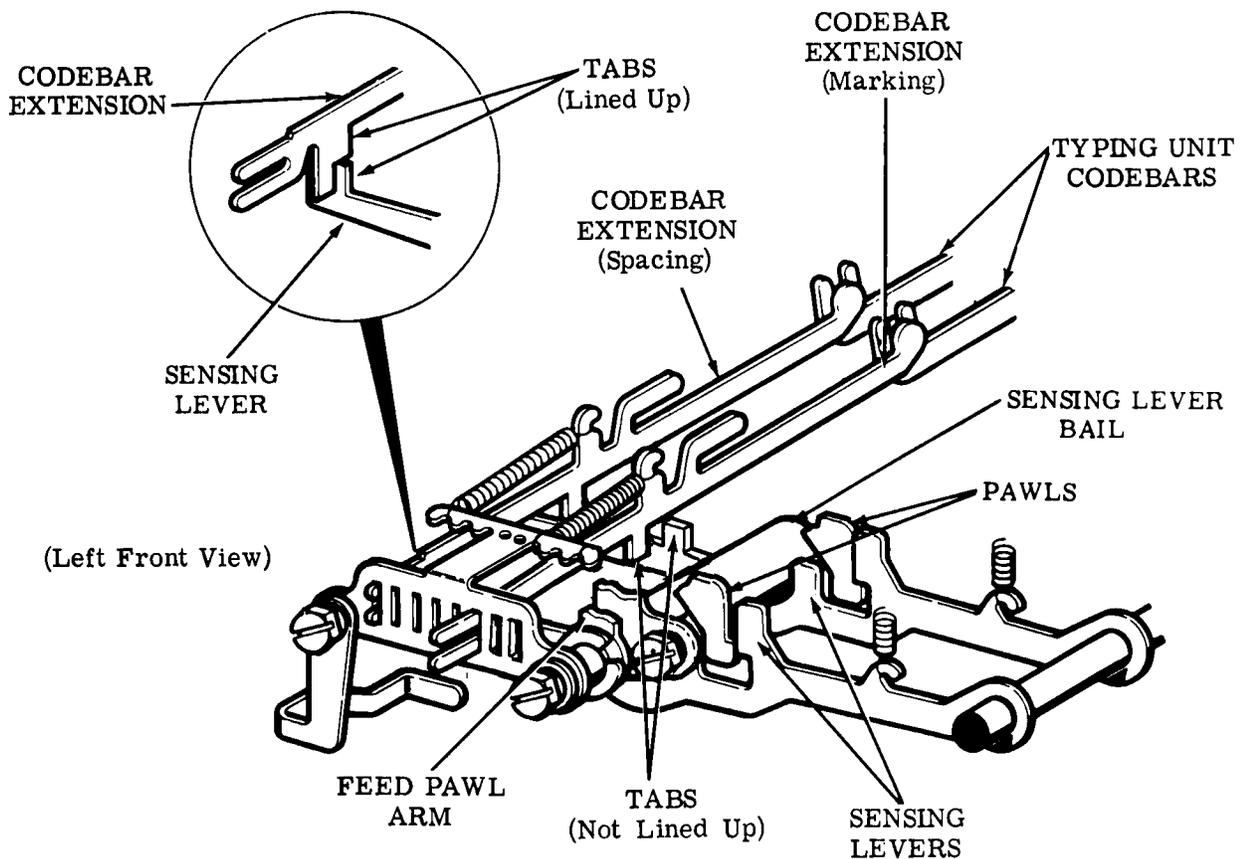

Figure 4 - Intelligence - Transfer Mechanism
4.02 There is a codebar extension (Figure 4) for each typing unit codebar. Motion is imparted to the codebar extensions by the codebars through the typing unit reset bail. A plate mounted to the tape punch base (early design), guides the codebar extensions.
(b) Tabs (Figure 4) precoded with the FIGS D code combination on the underside of the codebar extensions are sensed by the no. A-0 and A-8 sensing levers. All code combinations, except the FIGS D code combination, block the no. A-0 and A-8 sensing levers from reaching their most clockwise position.